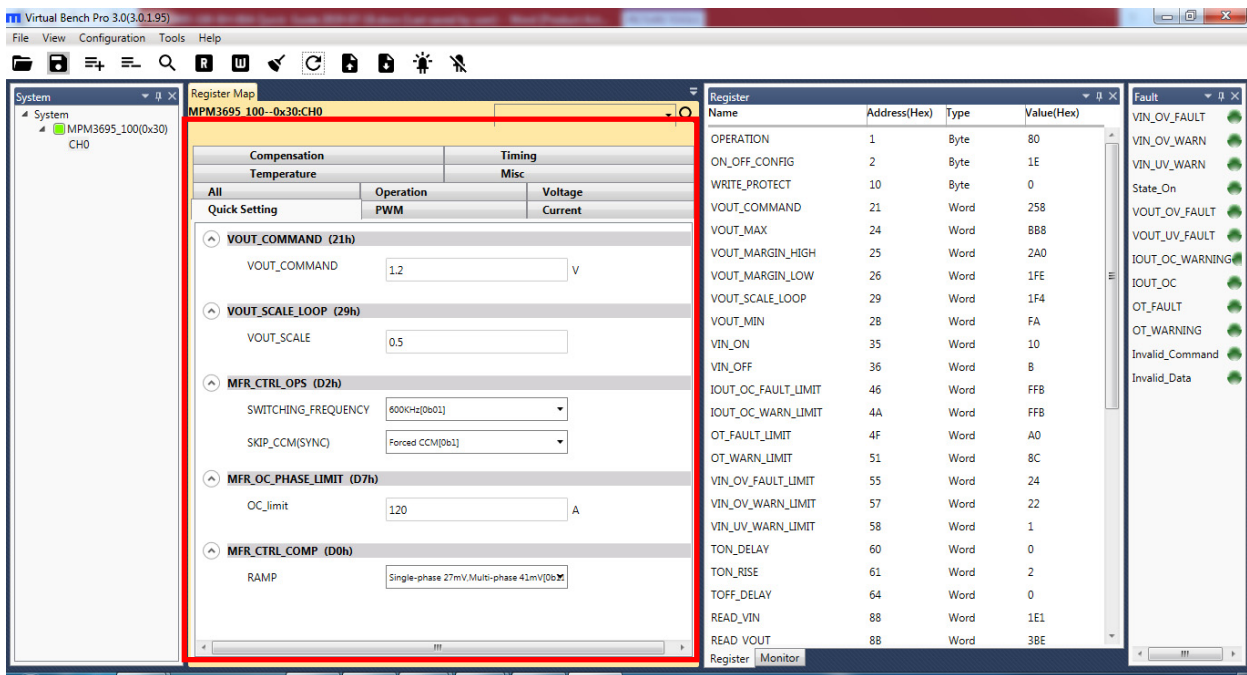

Figure 5: Reading the Register Values
5. The values stored in the registers of the module are read automatically (see Figure 5).